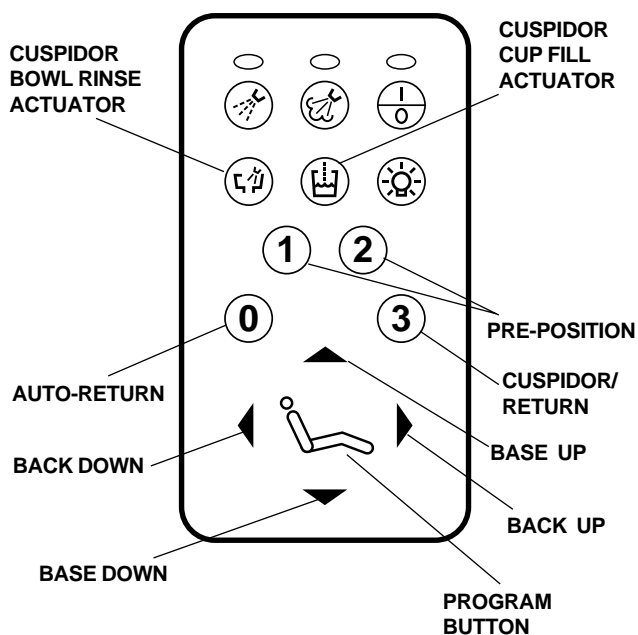

FIGURE 46
10. The touch pad arrowhead buttons (see Figure 46) are used to manually position the chair.
11. Pressing a pre-position button (see Figure 46) will send the chair's base and back to a pre-set position.
12. Locate the program button and arrowhead buttons on the touch pad (see Figure 46).
15. Press the cup fill actuator on the Master Touch Pad (see Figure 46 on page 18). When activated, water flow from the cup fill spout should be similar to water flow when the cuspidor cup fill actuator button was pressed in Step 14.
17. Press the bowl rinse actuator on the Master Touch Pad (see Figure 46 on page 18). When activated, water flow from the bowl rinse spout should be similar to water flow when the cuspidor bowl rinse actuator button was pressed in Step 16.